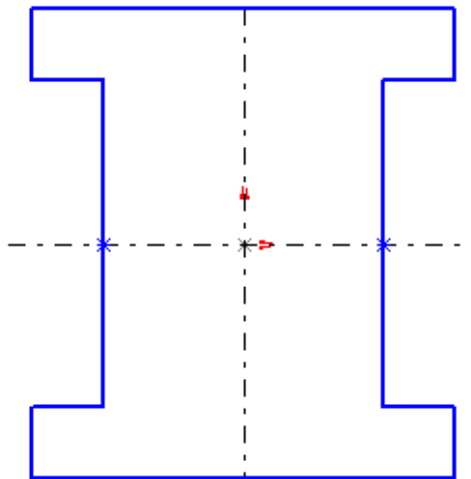

Figure 2-47 Sketch after mirroring the sketched entities
- e. Mirror the entire sketch along the second mirror line, refer to Figure 2-47.
As soon as you select the **Sketch Mirror** button, the entire sketch will be mirrored along the horizontal center line. The sketch after mirroring is shown in Figure 2-47.